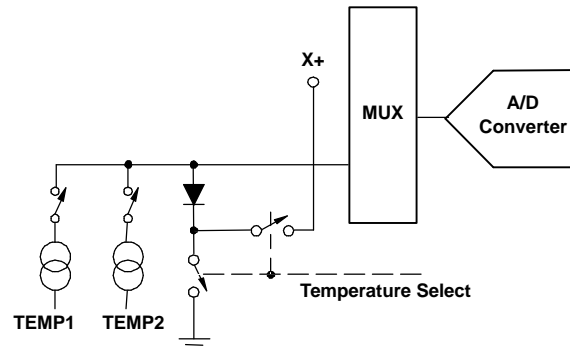
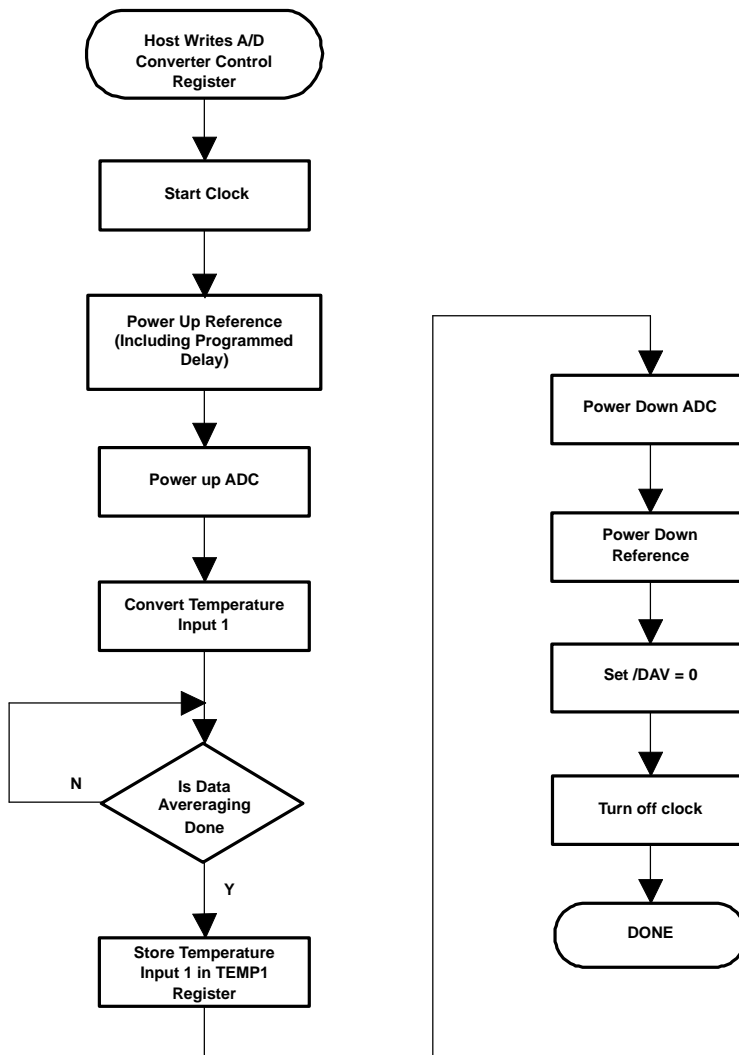

Figure 61. Functional Block Diagram of Temperature Measurement Mode.
Figure 62. Single Temperature Measurement Mode
The TSC2300 offers two modes of temperature measurement. The first mode requires calibration at a known temperature, but only requires a single reading to predict the ambient temperature. A diode, as shown in Figure 61, is used during this measurement cycle. The voltage across this diode is typically 600 mV at +25°C while conducting a 20- $\mu$ A current. The absolute value of this diode voltage can vary several millivolts, but the temperature coefficient (TC) of this voltage is very consistent at -2.1 mV/°C. During the final test of the end product, the diode voltage would be measured by the TSC2300's ADC at a known room temperature, and the corresponding digital code stored in system memory, for calibration purposes by the user. The result is an equivalent temperature measurement resolution of 0.3°C/LSB. This measurement of what is referred to as Temperature 1 is illustrated in Figure 62.